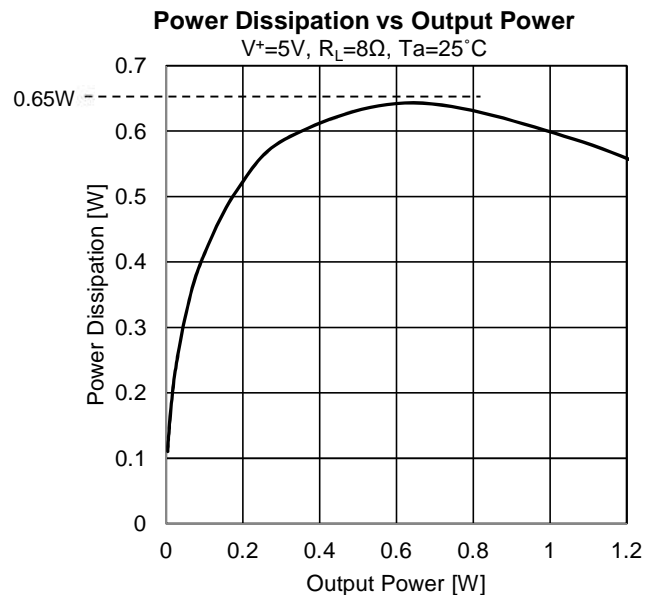

Fig. 19 Power Dissipation vs. Output Power
In the designing, power dissipation (P) should be verified in the using but temporary value is read by Power Dissipation vs Output Power on the datasheet's typical characteristics. Fig.19 shows typical characteristics under the conditions that  $T_a=25^{\circ}\text{C}$ ,  $V^+=5\text{V}$ ,  $G_v=+6\text{dB}$  and  $R_L=8\Omega$  BTL. The following are examples.
Maximum ambient temperature  $T_a$  is set by the following under the conditions that  $V^+=5\text{V}$ ,  $R_L=8\Omega$  BTL and maximum output power  $P_o=1.2\text{W}$  because maximum power dissipation (P) is approximately 0.65W by Fig. 19.
Maximum output power ( $P_o$ ) is gotten approximately 0.2W or under by Fig. 19 under the conditions that  $V^+=5\text{V}$ ,  $R_L=8\Omega$  BTL,  $P_D=0.5\text{W}$  and  $T_a=60^{\circ}\text{C}$ .